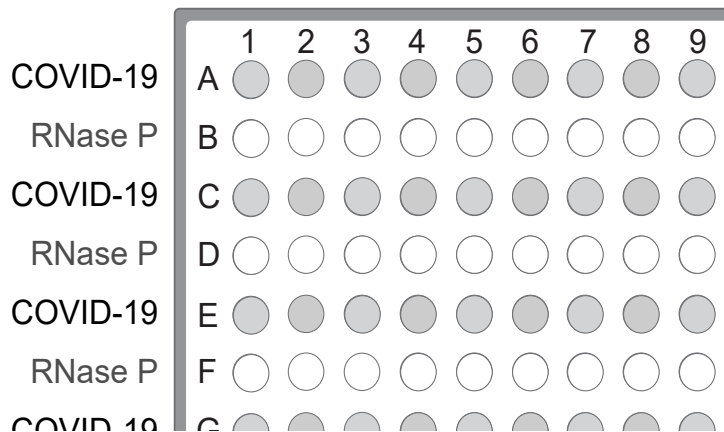

Figure 3 Assays in alternating plate rows
- a. Starting with row A, pipet 10.0 μ L per well of the COVID-19 Reaction Mix into every other row of a MicroAmp™ Optical 384-Well Reaction Plate with Barcode. See Figure 3 on page 57. A MicroAmp™ Optical 384-Well Reaction Plate can be used (see “Required materials not supplied” on page 11).